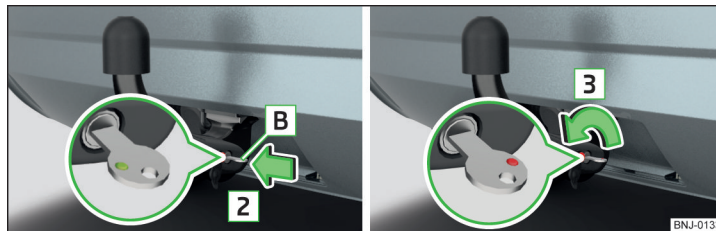

Fig. 251 Insert the key into the lock / unlock the lock
- › Insert the key **B** into the lock in the direction of arrow **2**, so that its green marker points upward » Fig. 251.